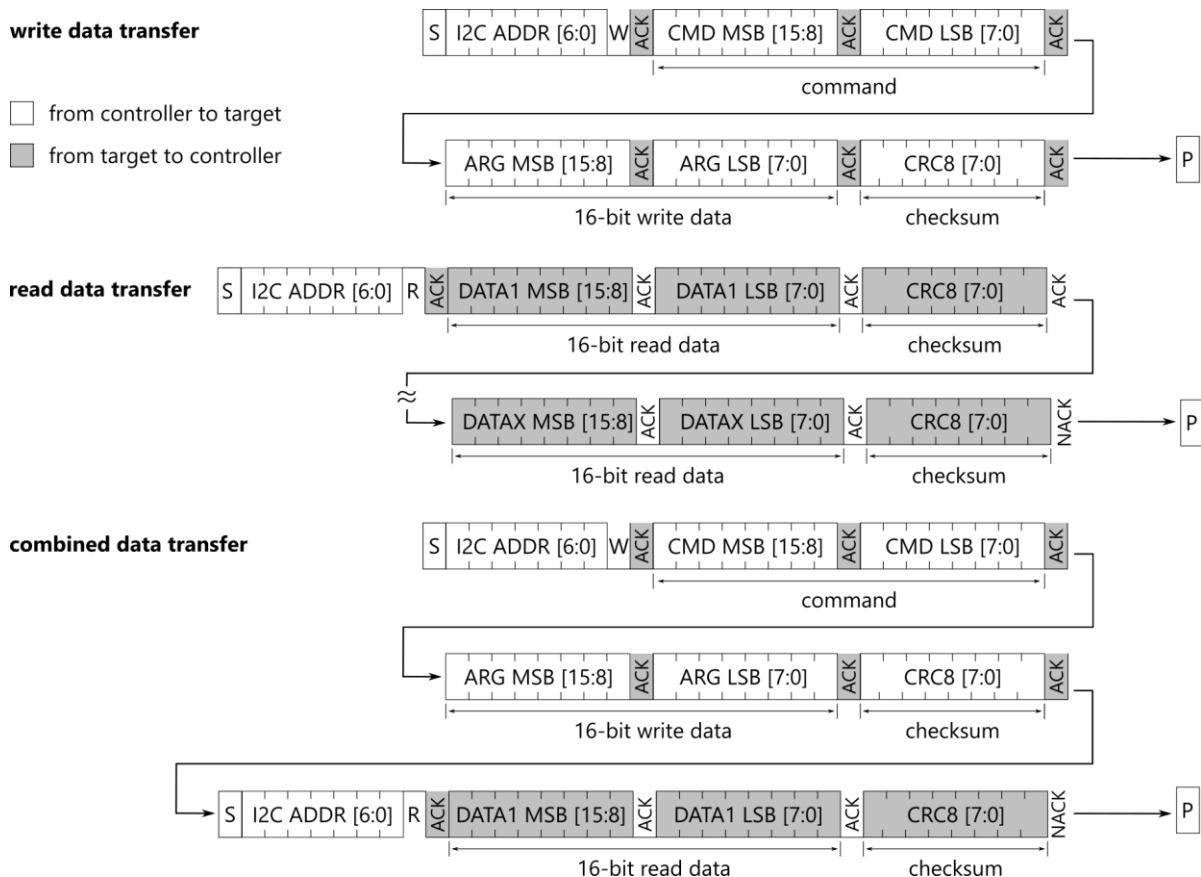

Figure 2. Write, read and combined data transfer formats
The write, read and combined data transfer formats are visualized in **Figure 2**. Data and commands are transferred in multiples of 16-bit words, with the most significant byte (MSB) transmitted first. All transfers must begin with a start condition (S) and terminate with a stop condition (P). A sensor is addressed by sending its 7-bit I²C address, followed by an eighth data direction bit denoting the communication direction (W/R): "zero" indicates transmission to the target (i.e., "WRITE") and "one" indicates a request for data (i.e., "READ"). Data words are succeeded by an 8-bit checksum (cyclic redundancy check CRC-8, see **Section 3.3**). Command words (CMD) contain a 3-bit CRC. In the write direction, the checksum must be transmitted. In read direction, the master may abort transmission after any data byte by sending a not acknowledge (NACK) and a stop condition. After receiving a command, the sensor requires the specified execution time before responding with a ACK.